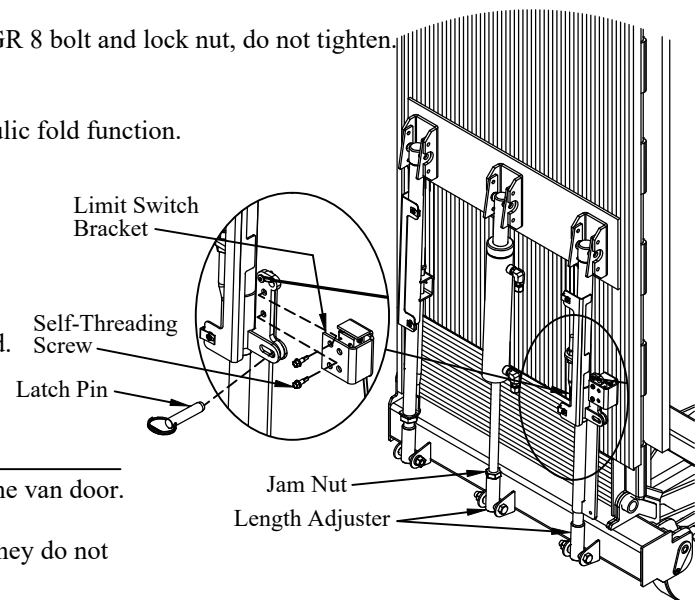

Figure 18: Platform latch and adjustment.
4. **Install** the limit switch bracket on the passenger side support arm with two (2) #12 self-threading screws. See Figure 18 for bracket shipping location. Make sure that the limit switch is not in the pushed position (Figure 18).
3. **Support** the platform to keep it from falling or hitting the van in the next steps (Figure 18).